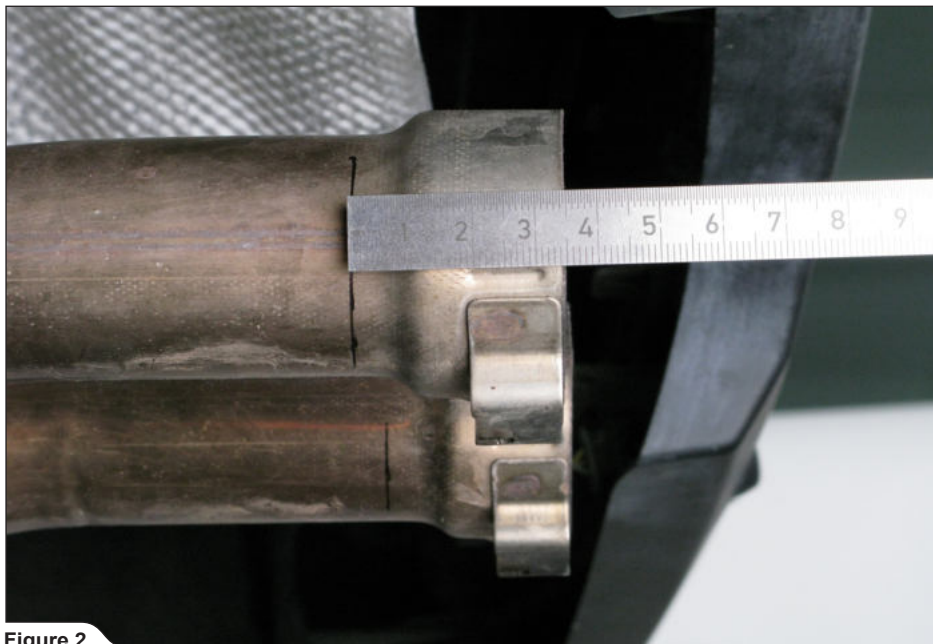

Figure 2
2. **For Tail Pipes only:** mark the muffler outlet pipes **35mm** from the edge of the pipe, as shown in figure. Cut pipes with angle grinder or equivalent (**Figure 2**).